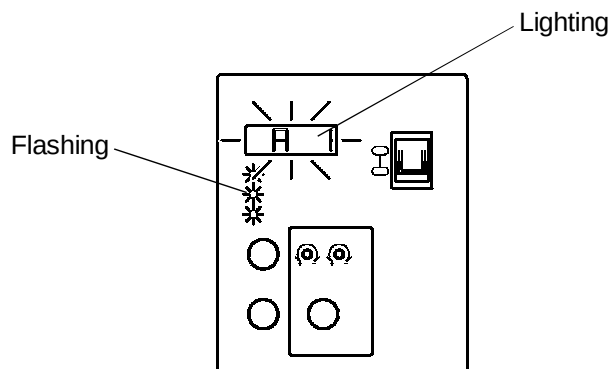

Fig. 32
10) Check that the Display Window is showing "A1". "A1" indicates that the unit is in Stage 1 of the Adjust Mode. There are 9 Stages in the Adjust Mode. See Fig. 32.